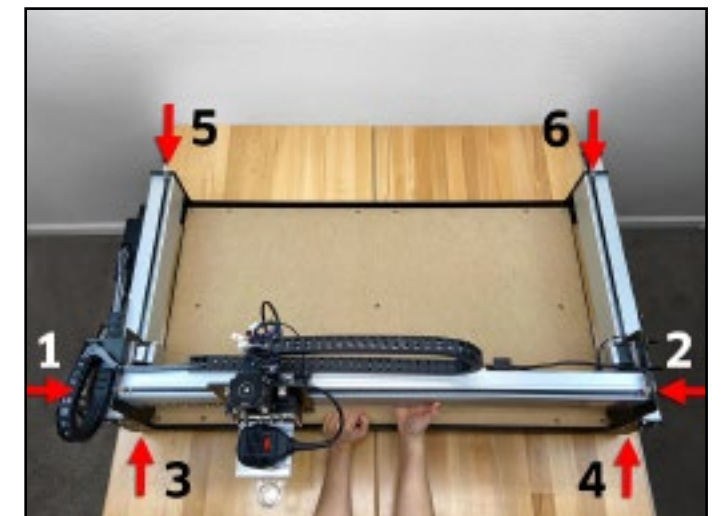

Figure 11-4
4. Maintain **FORWARD PRESSURE** and use the 4mm hex key to fully tighten the sixteen (16) M6x12mm button head cap screw sets 1-4, in numbered order, shown in **Figure 11-4**.
5. Move the X-rail to the rear and maintain **REARWARD PRESSURE** and use the 4mm hex key to fully tighten the eight (8) M6x12mm button head cap screw sets 5-6, in numbered order, shown in **Figure 11-4**.
6. Use the 3mm hex key to fully tighten the fifteen (15) M5x25mm button head cap screws of the MDF baseplate.